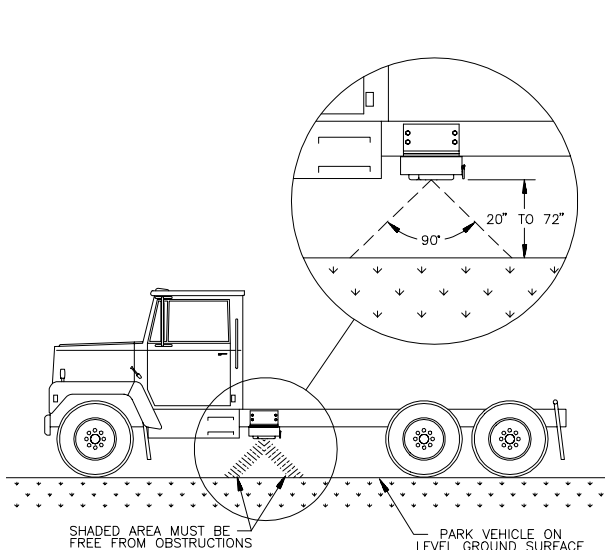

FIGURE 9
- a) The line of sight from the lens to the ground must not be obstructed by structures or tires. Road surface must not come closer than 20 inches to the bottom of the Radar. See Figures 9 and 10.